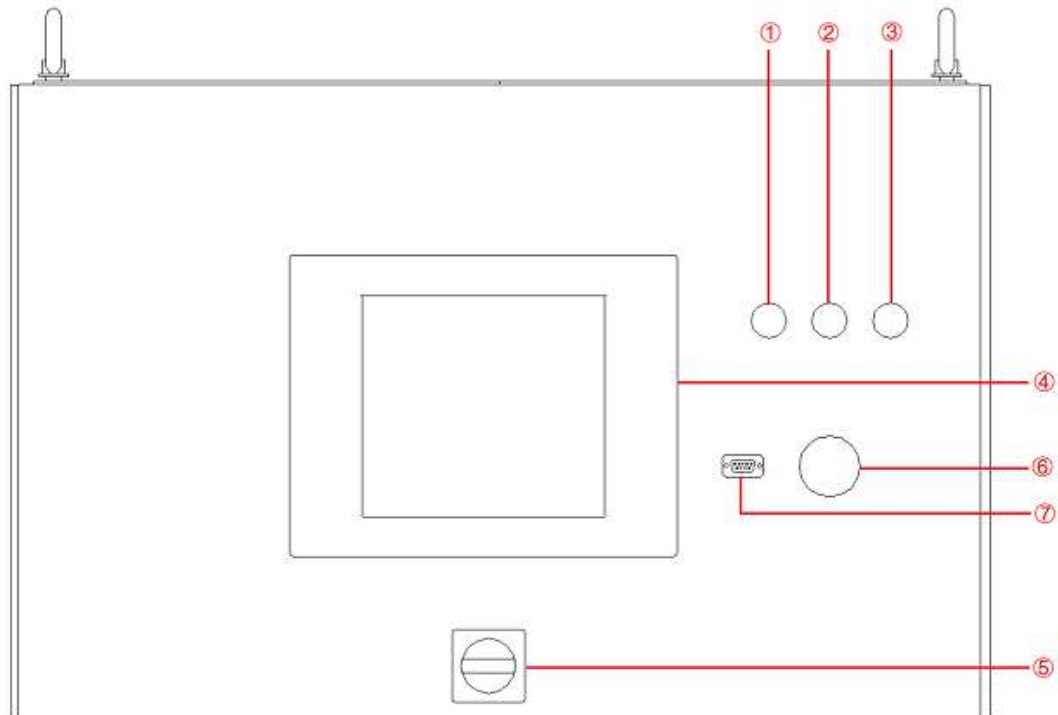

Figure 3-3 Front Panel
Turn clockwise to close the control switch on front panel (figure 3-3⑤) after closing the cabinet door, the power supply is standby. If the power supply communication connection is normal, the white light is always on (figure 3-3①).